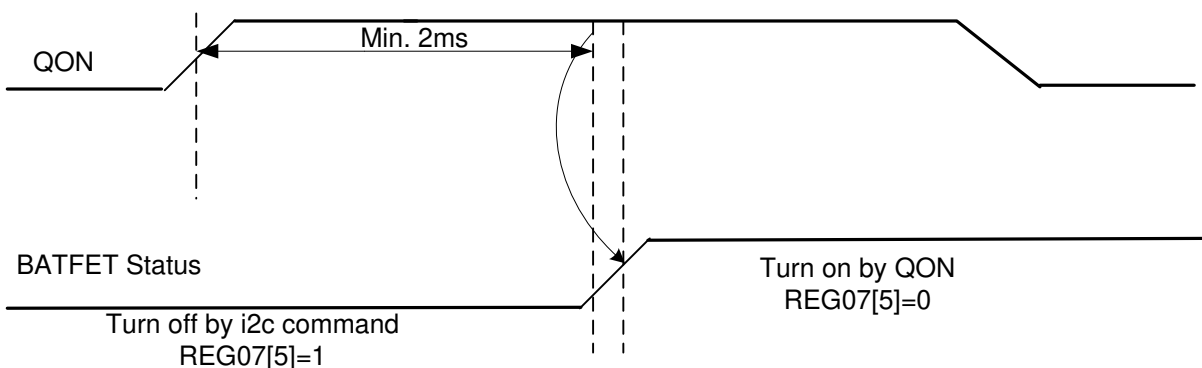

Figure 9-1. QON Timing
5. A logic low to high transition on QON pin (refer to Figure 9-1 for detail timing)